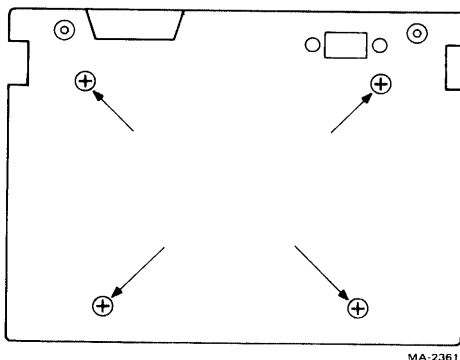

Figure 2-5 Metal Baseplate Screw Locations
1. Open the cartridge by removing the four baseplate Phillips head screws (Figure 2-5) and set it upright on the work surface with the cover still on.